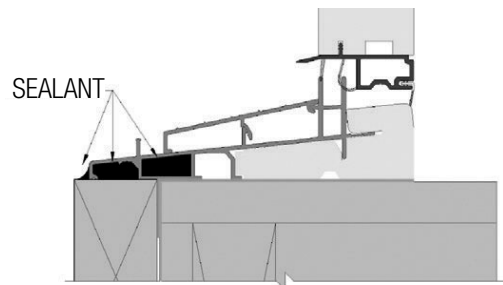

FIG. 17: IN-SWING DOOR SILL
- B) For in-swing patio doors: Apply silicone to seal each end of the sill cavity that protrudes out from the brickmould, including handicap sill. (Fig. 17)